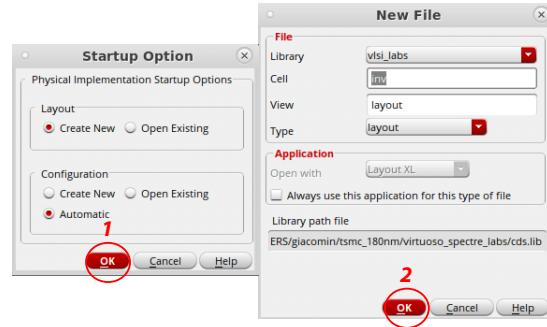

Figure 1: New layout view.
1. Create a new cellview for your inverter Layout. To do so, go to the open your inverter schematic and do: *Launch - Layout XL ...*). Click OK on the first window. For the next window, select layout as the view name, and Layout XL as the desired application as indicated in Fig. 1 (the library and cell name will of course depend on what you chose earlier).